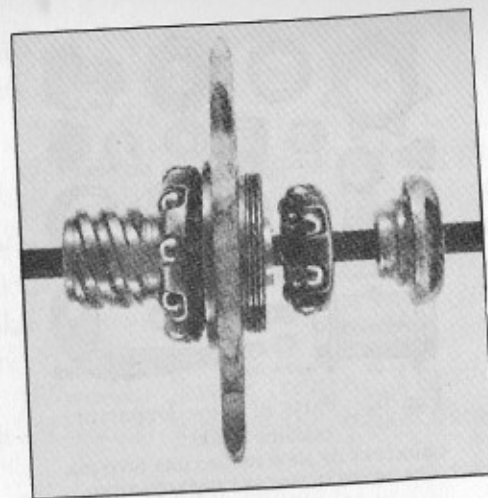

Fig. 61. Installing driving screw assembly.
4. Screw on adjusting cone (108B) (Fig. 61).